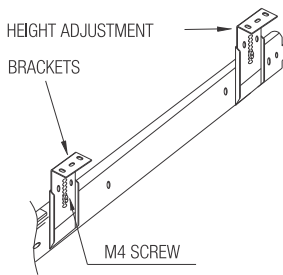

Fig. 1.
1. Assemble height adjustment brackets on to slides using M4 screw provided as in Fig.1.